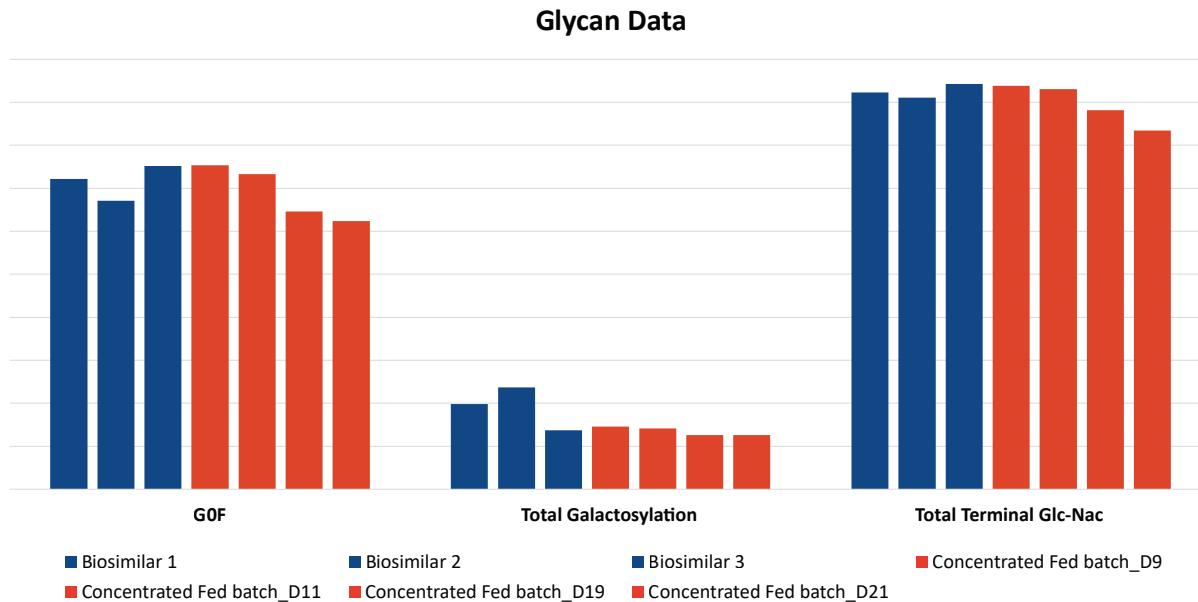

Figure 9: Glycan profile comparison across biosimilars and intensified fed-batch samples.
- **Product Quality:** Glycan profiles and post-translational modifications remained consistent with biosimilar standards, ensuring regulatory compliance (Figure 9).